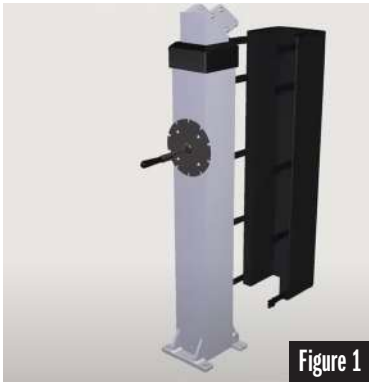

Figure 1
- STEP 1:** Remove the Pad from the Base Pole (Part E). See Figure 1.